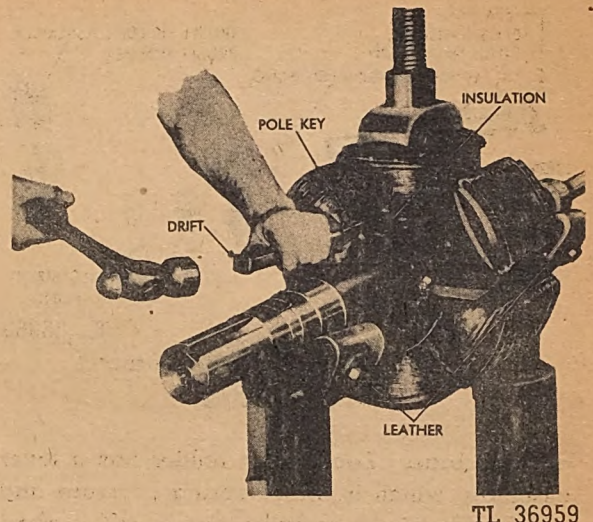

Fig. 307. Driving in Pole Key
- (4) Cover the new key with a coat of heavy lubricating oil and drive the key into place as illustrated in Figure 307. **IMPORTANT:** Note that the key is driven in from the coupling end of the shaft. The drift need not be of any special size.
- (5) Solder the connectors to the new coil.
- (6) Assemble the fans which were removed from the spider.